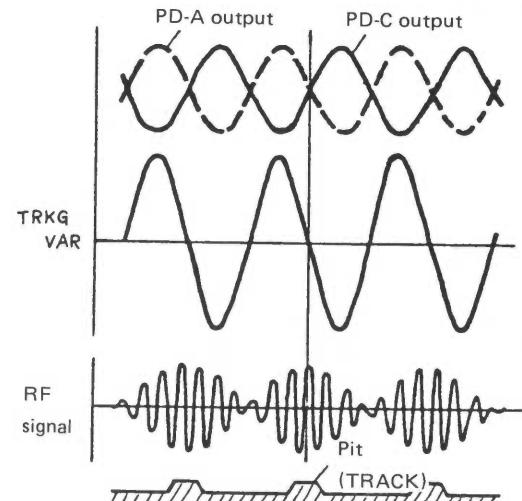
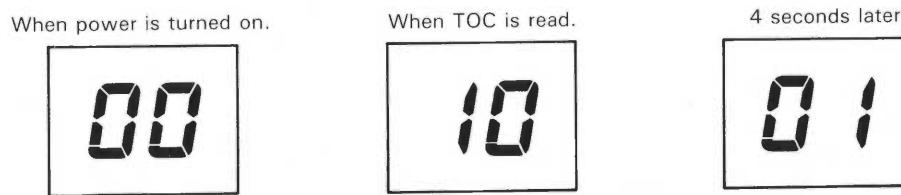
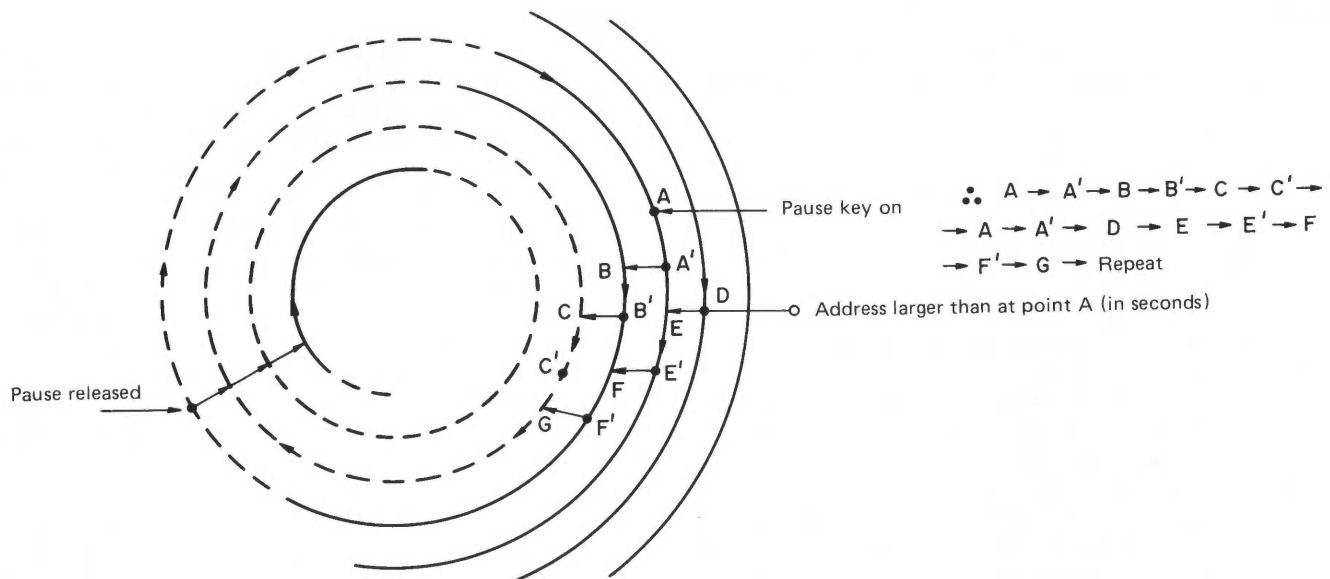

Fig.3-36 Tracking error and the RF signal
Fig. 3-37
Fig. 3-38
Fig. 3-36 shows how the focus signal is detected. (1) is when the beam from the laser diode is accurately focused on the disc by the objective lens. (2) shows what happens when the disc comes closer to the pickup and (3) shows what happens when the disc moves farther away. The grating and concave lens, which have no direct effect on the focusing are not shown in the diagram.
In case (1), the beam emanating from point 01 is reflected and diffracted on the disc surface to produce the condensed beam (02). In case (2), the beam is directed at a point farther than that of beam 02. Fig. 3-37 shows the properties of the cylindrical lens. Since the cylindrical lens is shaped as shown in the diagram, the lens is operated in the vertical direction of the diagram, not the horizontal direction. 1 through 7 shows the shape of the beam at each point. Between points 2 and 6, which are in a straight line, the beam is circular at point 4. Point 6 corresponds to beam 02 of fig. 3-36. If we assume that fig. 3-37 shows mode (1) of fig. 3-36, that means the beam is circular because the photo diode is located at point 4. In mode (2) of fig. 3-36, the location of the photo diode is closer to the cylindrical lens than it was in fig. 3-37. That means the shape of the beam is the same as that of point 3 (an ellipse that has a longer width than height). In mode (3) of fig. 3-36, the shape of the beam is that of point 5, an ellipse that has a longer height than width.
These beam shapes are shown in fig. 3-36. By performing a $(B_1 + B_3) - (B_2 + B_4)$ computation using the B1-B4 photo diode quartering elements, the focus signal is produced.
If the objective lens is moved closer to the disc until point 7 of fig. 3-37 is reached, the shape of the beam at the photo diode becomes an ellipse that is higher than it is wide. The focus signal would then be positive because $(B_1 + B_3)$ is greater than $(B_2 + B_4)$. However, after the peak (vertical line) is reached at point 6, it begins to return to zero. If it becomes zero at point 4, the beam becomes an ellipse that is wider than it is high because $(B_1 + B_3)$ is less than $(B_2 + B_4)$ and the focus signal becomes negative. After peaking at point 2, the focus signal returns to zero just as when the objective lens is too far from the disc. Focusing signals produced in the above manner are shown in fig. 3-38. Due to its shape, this is called an S-curve, an important graph that expresses the properties of the focus signal.